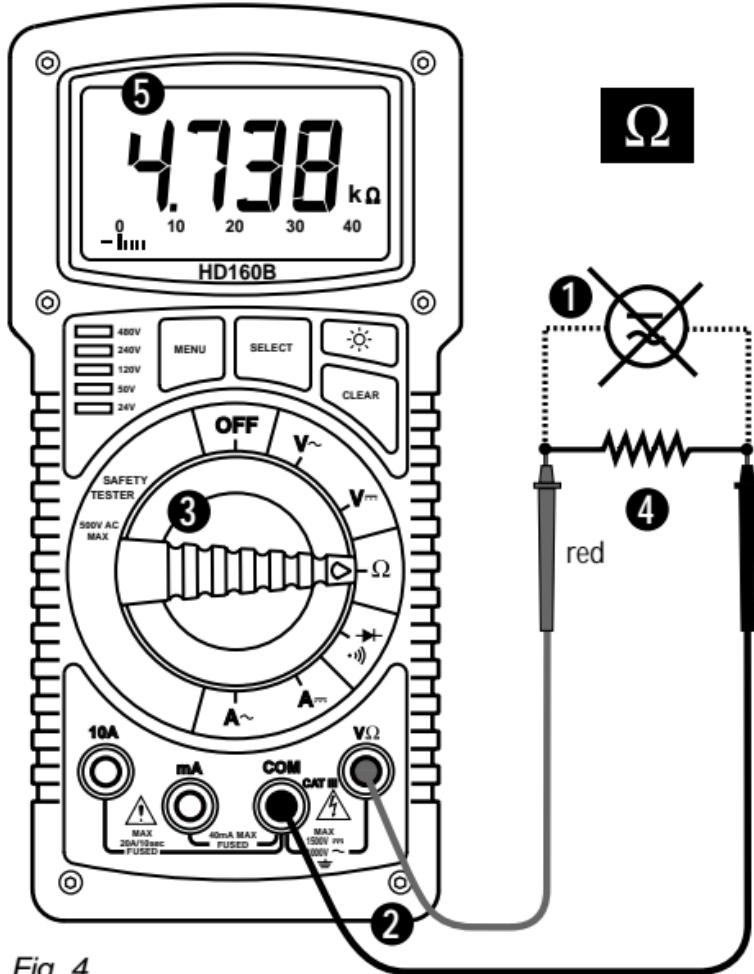

Fig. 4
RESISTANCE MEASUREMENT (See Fig. 4)
- Connect test leads as shown in figure 4.